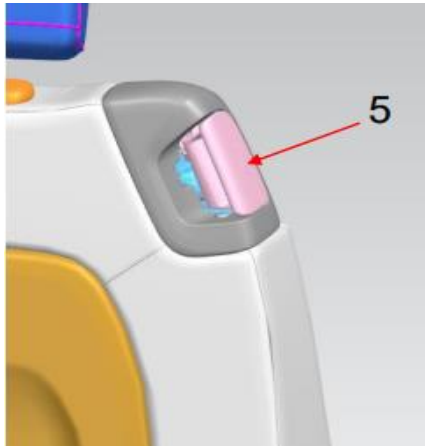

Fig 5.
5. Confirm that rotating the handle pulls the cable out and handle returns to its home position (Fig 5) when the handle is released. If handle is stuck or high effort to rotate, continue with step 6 through 8.